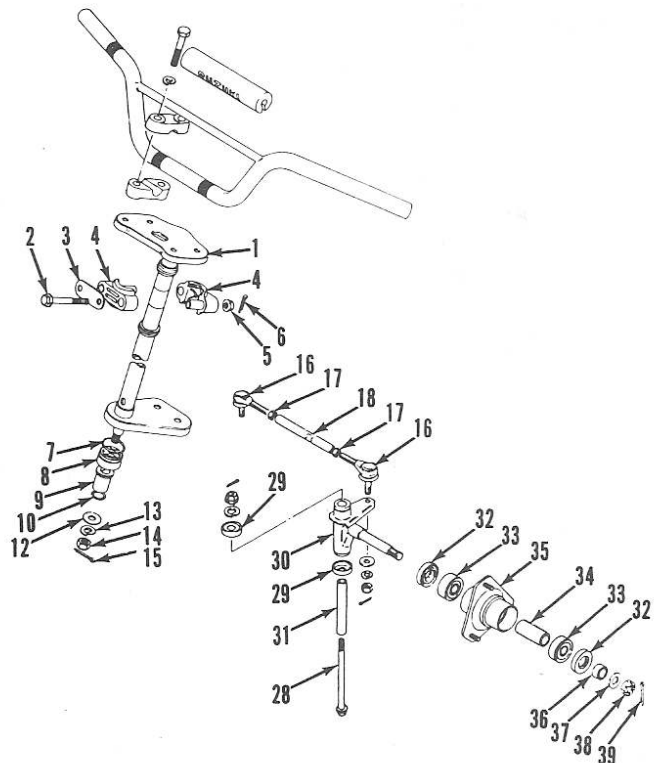

Fig. S6-21—Exploded view of steering and front axle assembly used on LT125 models. Refer to Fig. S6-22 for parts identification.
**R&R AND OVERHAUL.** Refer to Fig. S6-21 for an exploded view of front axle assembly used on LT125 models or to Fig. S6-22 for front axle assembly used on LT185 models. To remove either wheel hub (35), remove front wheel and axle nut (38). Pull wheel hub from spindle (30). Do not lose spacer (36). Drive seals (32), bearings (33) and spacer (34) from hub if necessary.
To adjust toe-in, loosen tie rod locknuts (17—Fig. S6-21 or Fig. S6-22) on both left and right tie rods. Tie rod ends (16) and locknuts (17) color coded yellow have left-hand threads. Rotate adjusters (18) in equal increments to maintain equal vehicle centerline to left and right tire centerline distances. Tighten tie rod locknuts to 25-35 N·m (18.0-25.5 ft.-lbs.) torque.
**R&R AND OVERHAUL.** Refer to Fig. S6-21 for an exploded view of steering assembly used on LT125 models or to Fig. S6-22 for exploded view of steering assembly used on LT185 models. Removal and disassembly of steering components is evident after inspection of unit and referral to an appropriate exploded view. During reassembly, renew all cotter pins. Lubricate all friction points with a good quality grease. Tighten steering shaft clamp cap screws (2) to 18-28 N·m (13-20 ft.-lbs.), steering shaft lower nut (14) to 22-35 N·m (16.0-25.5 ft.-lbs.) and tie rod retaining nuts and spindle cap screws (28) to 40-60 N·m (29.0-43.5 ft.-lbs.) torque.